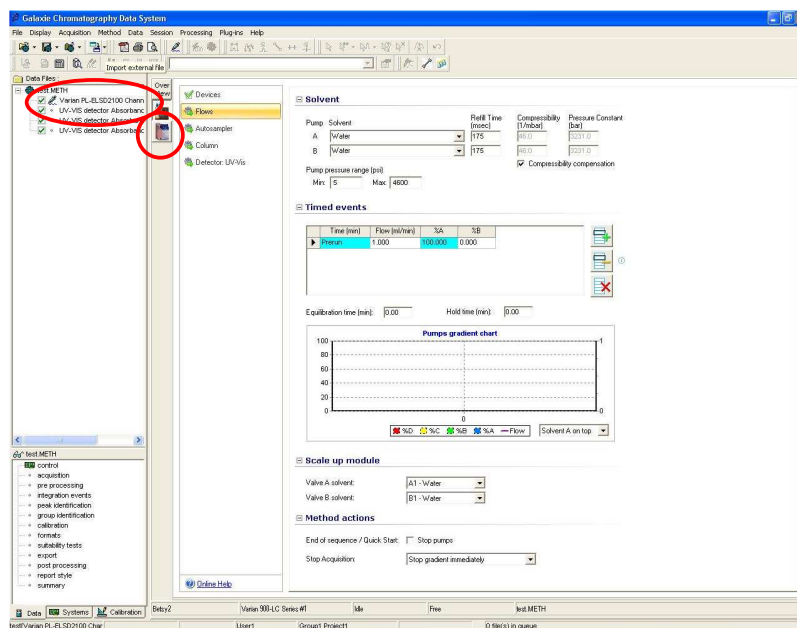

Figure 14: System Method Page
18. Starting an acquisition is as simple as creating a method and downloading it to the instrument. Note here the Varian PL-ELS2100 channel being shown and the ELSD icon below the 900-LC instrument (Fig 14).